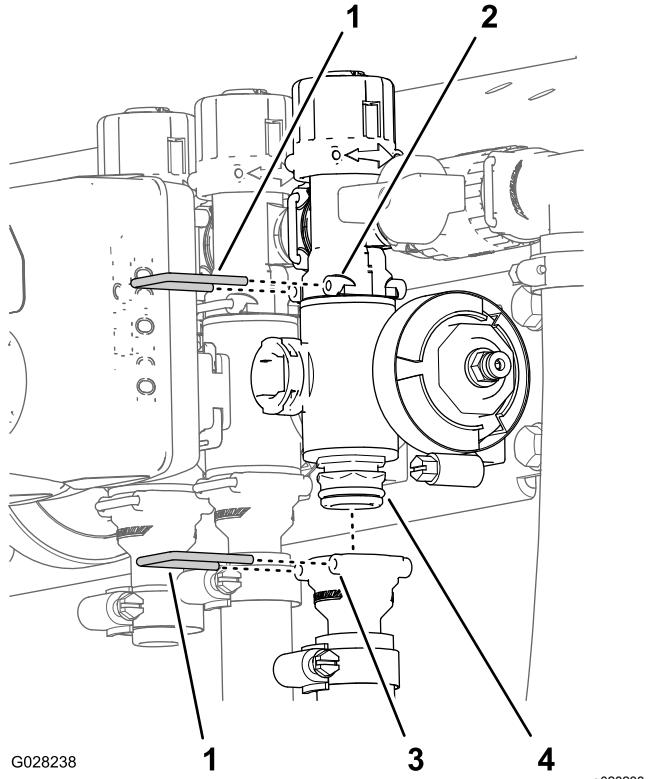

Figure 95
2. Remove the retainers that secure the outlet fitting to the section valve manifold and the valve manifold to the bypass fitting (Figure 95).